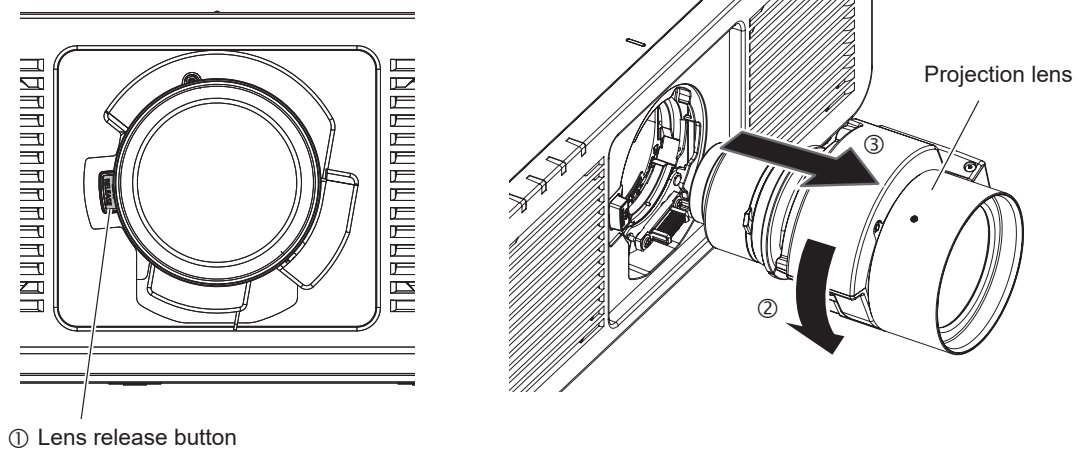

Fig. 2
- 2) While pressing the lens release button(①), turn the projection lens counterclockwise(②) to the end and remove(③). (Fig. 2)